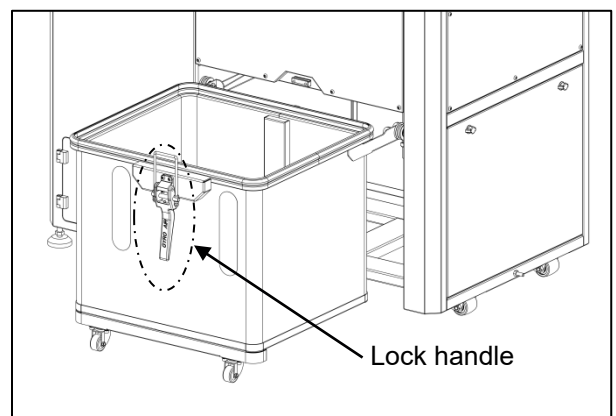

Fig. 15
The dust bin is located at the front of the machine, as shown in **Fig. 15**. Follow these steps to empty it:
6.1 Cleaning the Dust Bin *(Fig.15)*